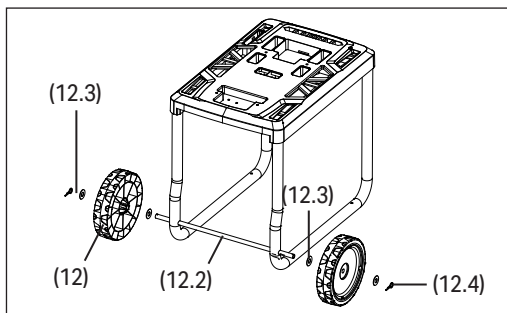
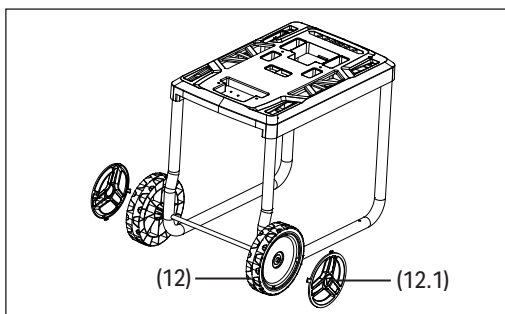

Fig.2
Fig.3
6.2 Assembling the Wheels (Fig.2 – Fig.3)